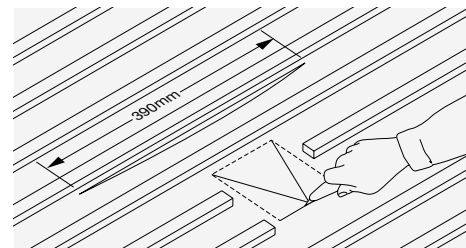

Fig. 1 – Make aperture in underlay
- 4 Make a horizontal cut in underlay, 390mm long, at a distance 150mm above bottom edge of tiling batten above unit and slide soaker tray under batten and through slit in underlay (Fig. 1, page 226).